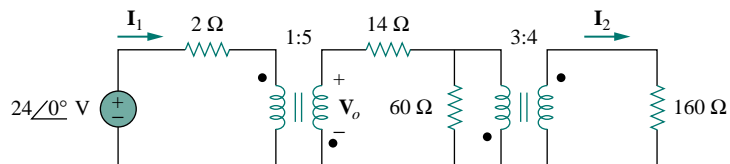

Figure 13.112 For Prob. 13.45.
- *13.45** For the circuit in Fig. 13.112 below, find I_1 , I_2 , and V_o .